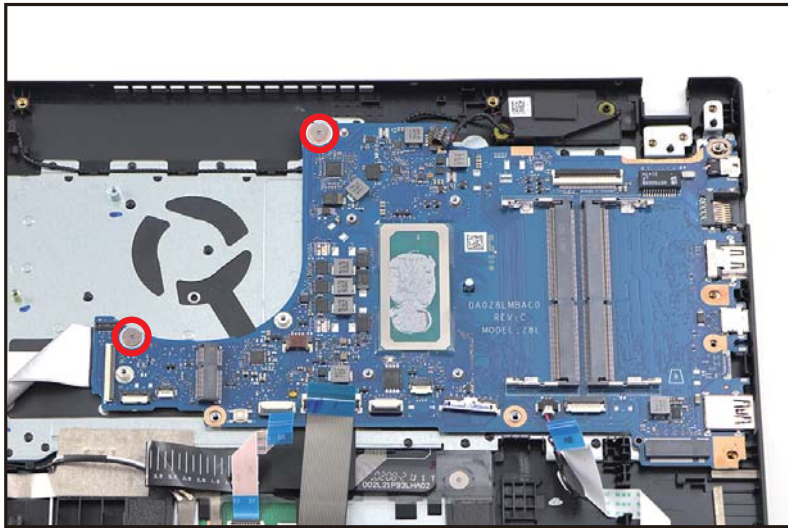

Figure 1-31. Mainboard Removal
8. Remove two (2) screws securing the mainboard (Figure 1-31).